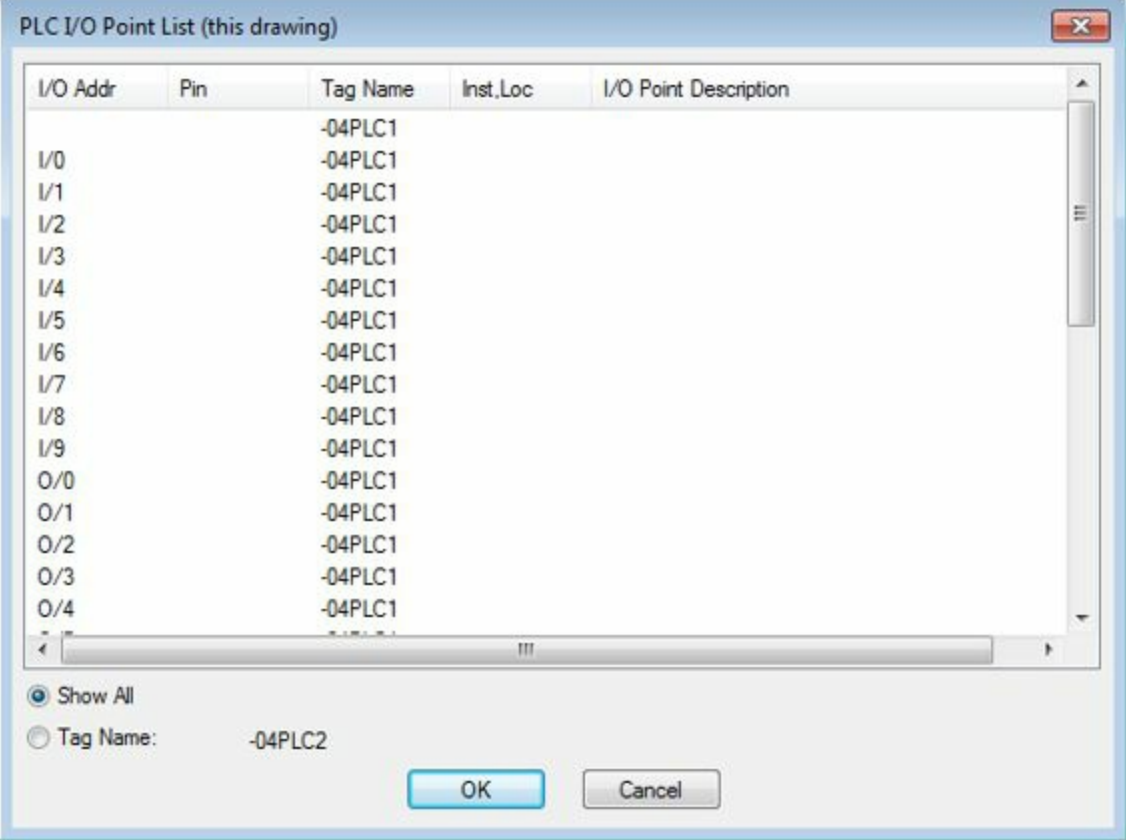

Figure-9. PLC IO Point List dialog box
- Select the **Drawing** button from the area. The **PLC I/O Point List (this drawing)** dialog box will be displayed with the list of I/O points assigned already; refer to Figure-9.